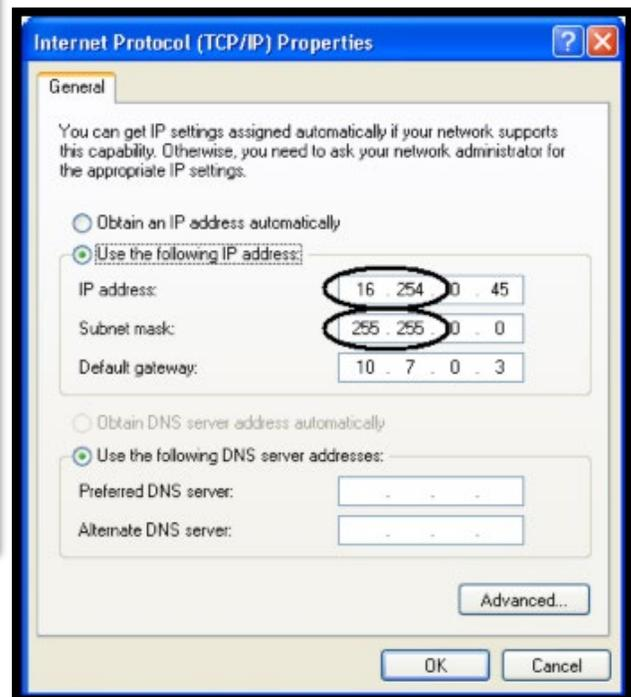

Figure 18. Manually Enter Subnet Settings Matching the digiBASE-E Settings
- Figure 18 shows the TCP/IP properties dialog. Select the **Use the following IP address** option (i.e., the option that allows users to manually enter the IP address).
- Set the first two bytes (dot address sections) of the **IP address** and the **Subnet mask** to the values recorded for the digiBASE-E; see the circled portions of Figure 18. Click on **OK**.
- Return to the PC's TCP/IP properties dialog (Figure 18) and either re-select the **Obtain an IP address automatically** setting or return the manual entry to its original IP address. Click on **OK**, then back out of the LAN properties dialogs.